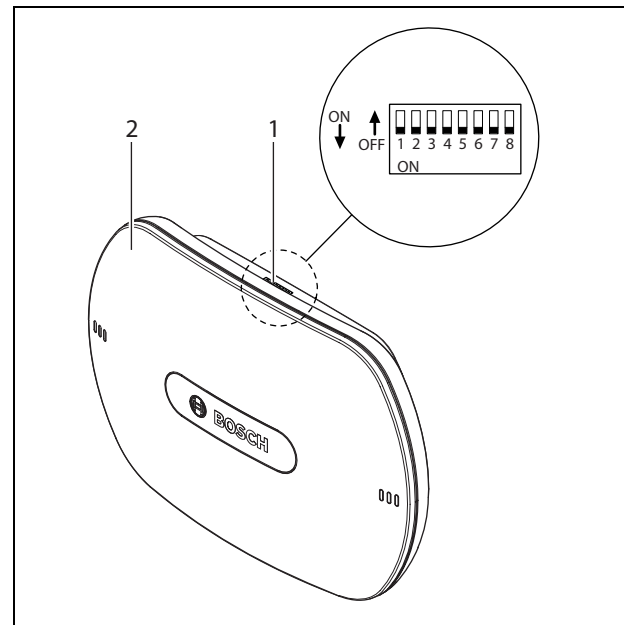

figure 3.3: Position of the WAP DIP switches
- 1 Remove the wireless access point from the case, and set the DIP switches (see figure 3.3, no.1) on the side of the unit (no. 2). See table 3.2 for correct settings.